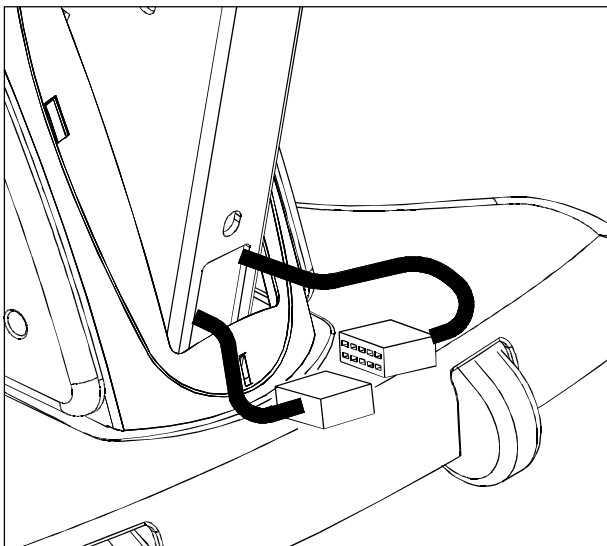

Fig.5
- ③ Connect data cable connectors, then insert the cable into the pedestal, as shown in Figure 5.